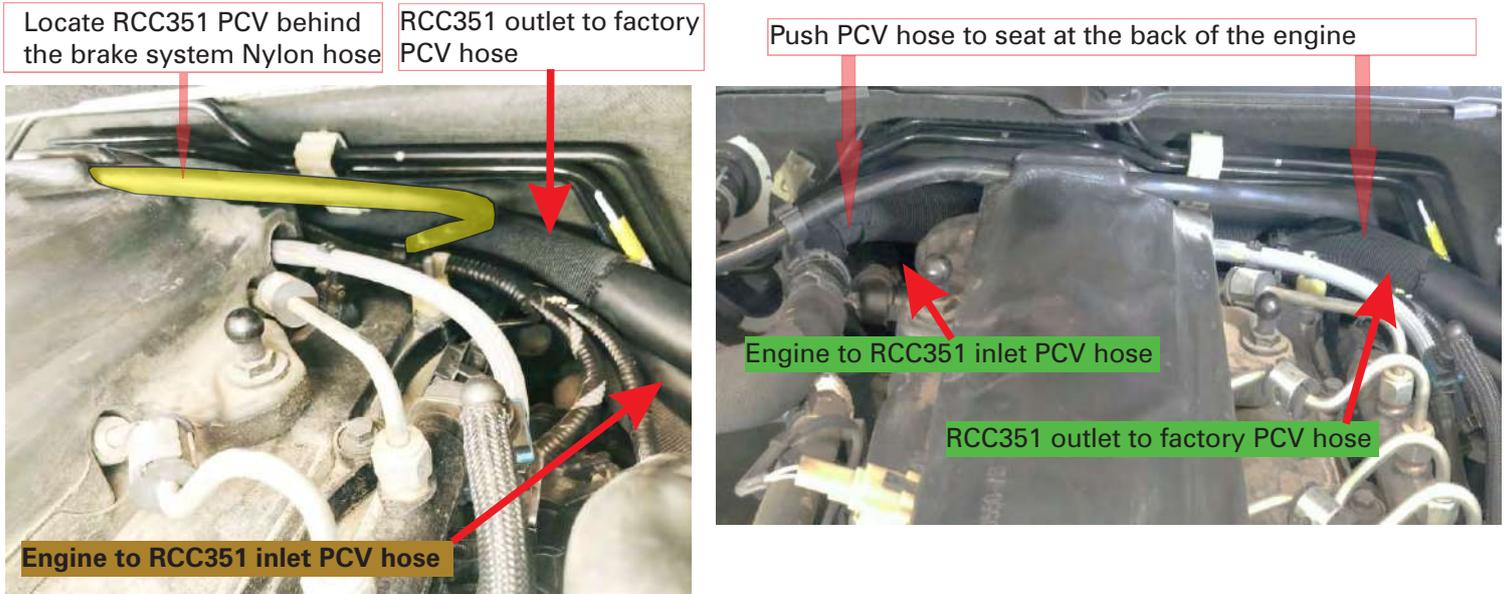

Fig 8. CATCHCAN INSTALLATION PCV HOSES LOCATIONS
4. Feed the hose behind the engine, the PCV hoses run behind the engine and under the factory brake pipes. Push the hoses down past the factory pipes so they sit in the space between the cylinder head and firewall. (Fig.8)